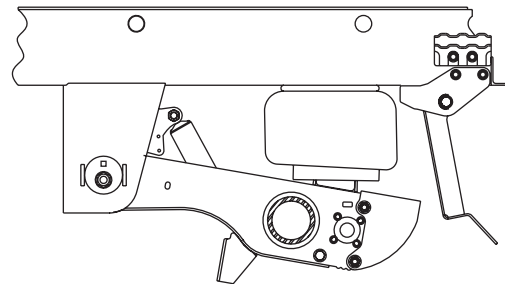

Figure 5: Ride height set too low
value will prevent the SURELOK support arms from properly engaging. See Figure 5.
- B. If ride height is set **below specified minimum** value (Figure 5), The SURELOK support arms (shown in retracted position) cannot contact properly engage the beam.